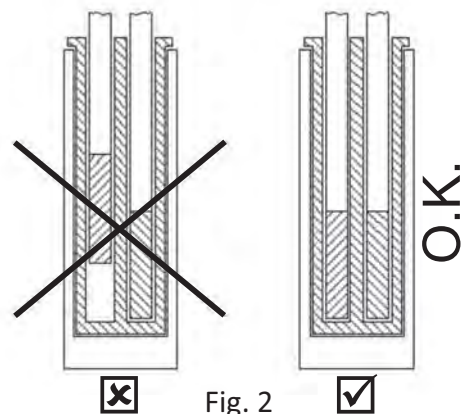
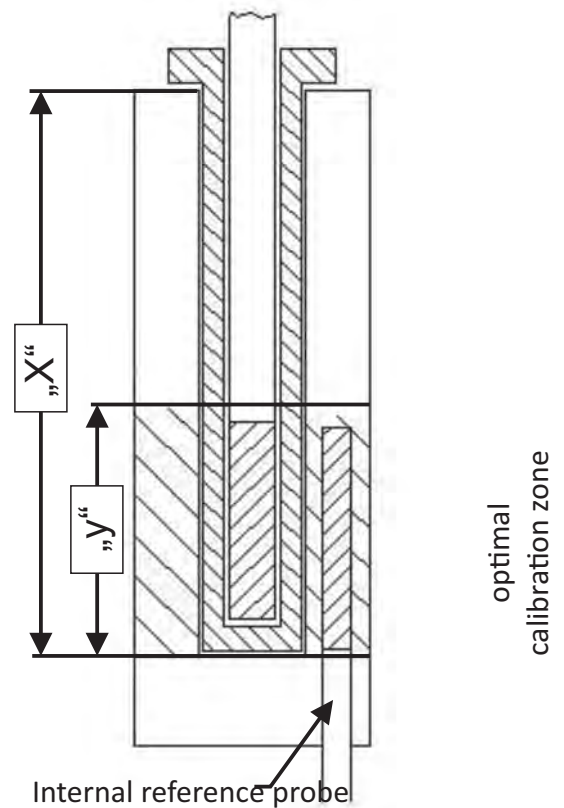

Fig. 2
Fig. 3
- Insert the probe as much down down to the bottom of the block as possible. The sensitive element of the probe should be in the calibration zone (see Fig. 3 on next page).
- If you use an external reference probe, take care that the position of both probes is similar, at the same insertion depth (Fig. 2), and as close together as possible. The position of the internal reference sensor is shown in Fig. 3 on the next page.
Notes to Fig. 3:
The internal reference sensor is used for the reading and thermoregulation. It is placed directly in the metal block (see Fig. 3 in chapter 4).
ref. **b)**: Compare the values of unit under test with values shown on the display of the external reference thermometer. Insert both probes (unit under test and probe of reference thermometer) as much closed together as possible, with same insertion depth. See Fig. 3 in chapter 4 for the optimal calibration zone.
1. Switch on the instrument with the main switch (2) and wait for the end of the self-test procedure. Then the 2nd. line of the display shows „Stby“ (standby). Press any key to access the set point adjustment.
2. Insert the probe (your unit under test) into suitable holes of the equalizer block (refer to chapter 4 - Fig. 1, Fig. 2 and Fig. 3)